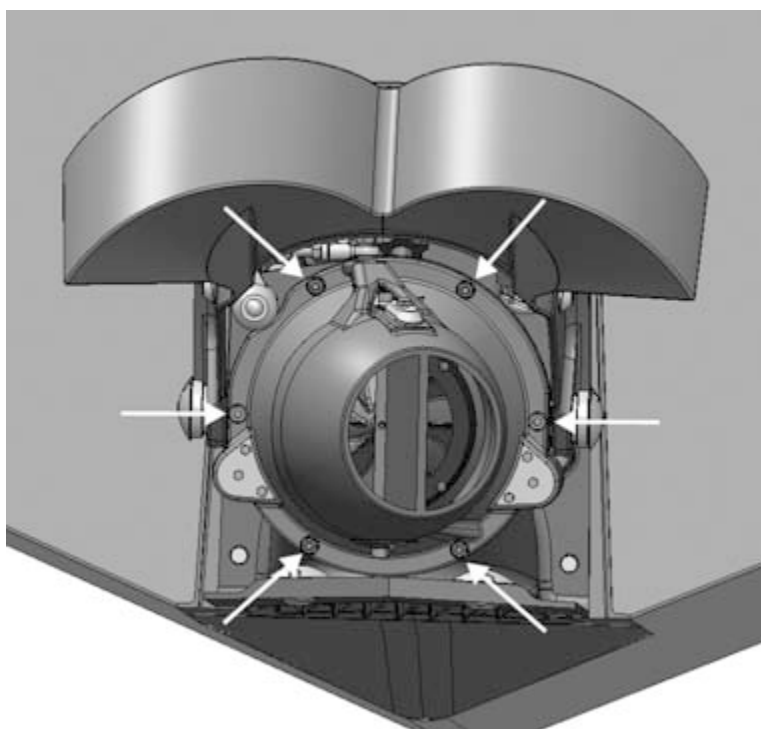

Figure 31. Stator fastening screws
2. Open the stator's fastening screws (figure 31).